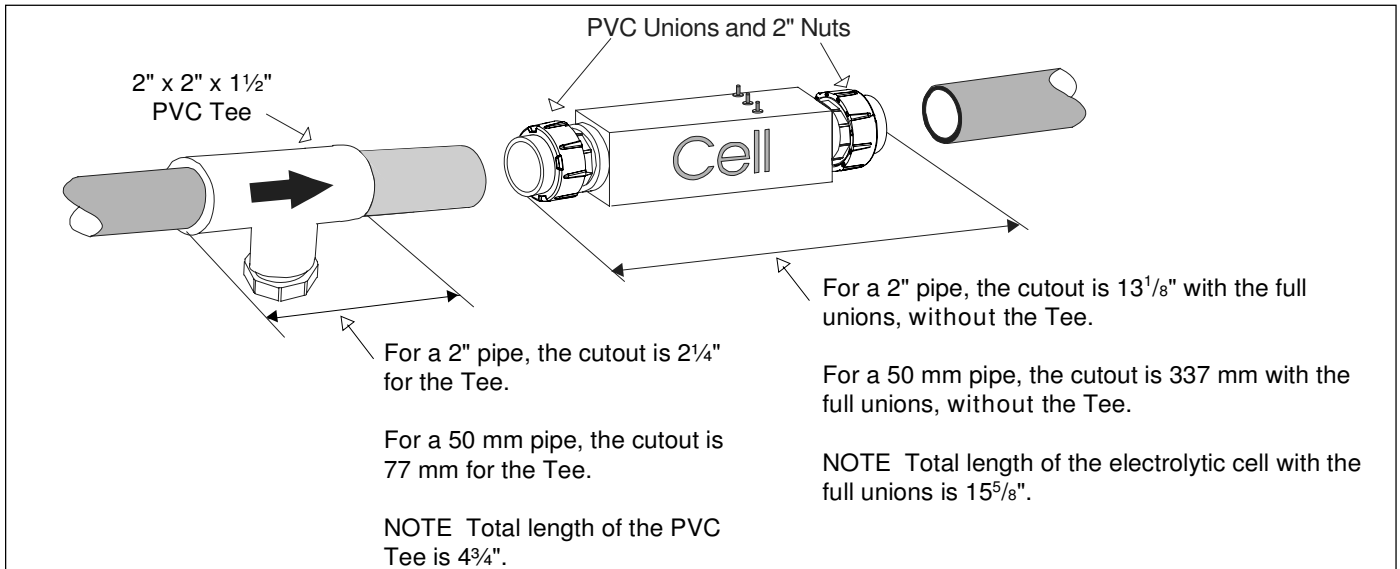

Figure 13. Pipe Cutout
5. Cut out a 13¹/₈" (337 mm) section of the 2" (50 mm) pipe to insert the Cell. Cut an additional 2¹/₄" to insert the Flow/Temp/Salinity Sensor Assembly (see Figure 13).